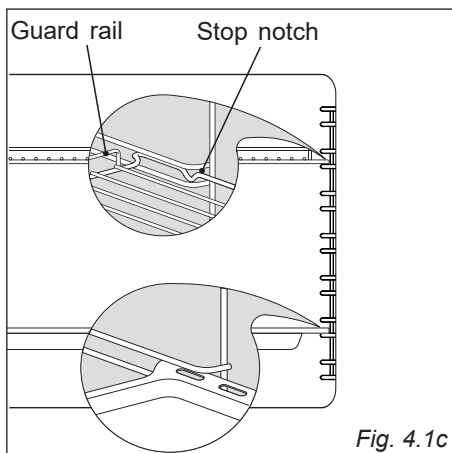

Fig. 4.1c
- Slide in, on the guides, the shelf and the tray (fig. 4.1c).